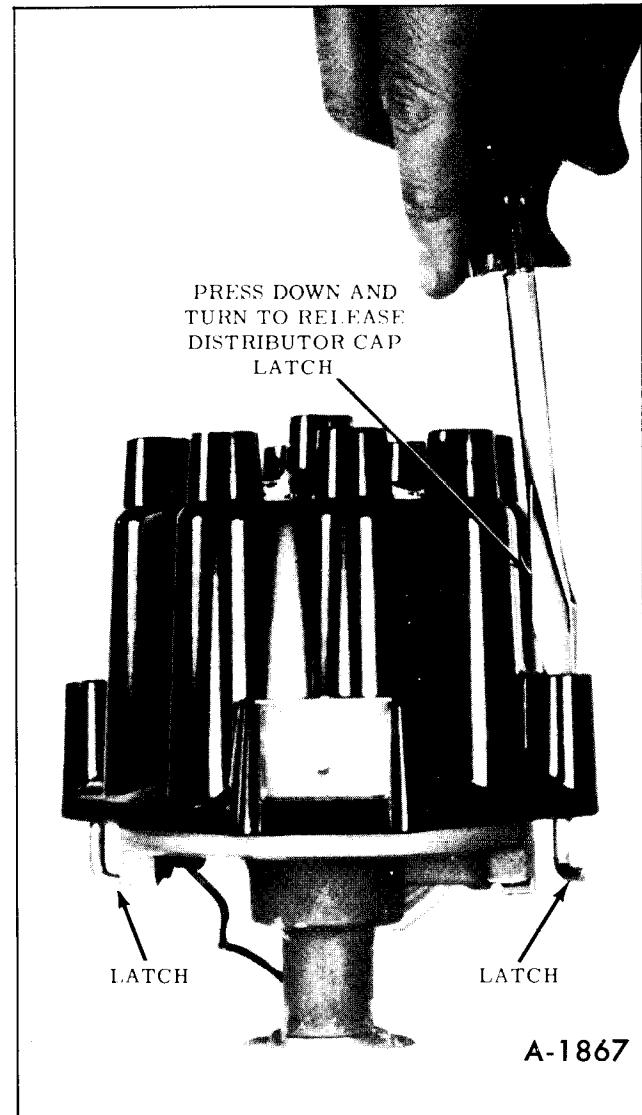

Figure 28—Removing Distributor Cap
1. Remove distributor cap and rotor. (figure 28)
2. Remove distributor cap as shown in Figure 28.